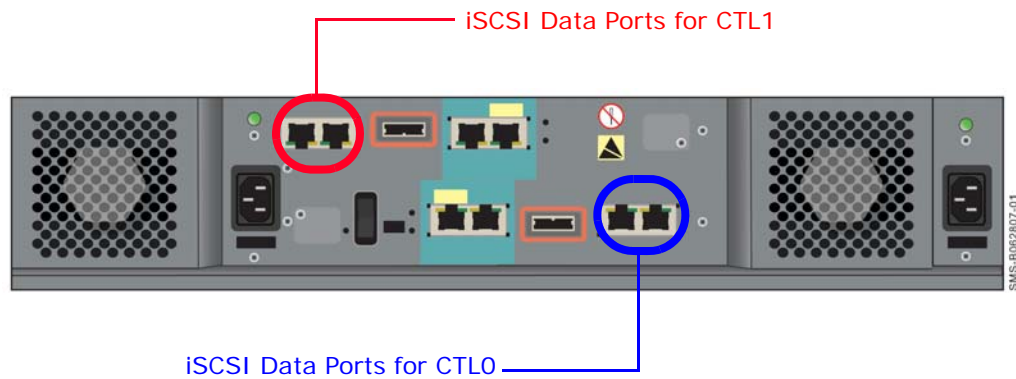
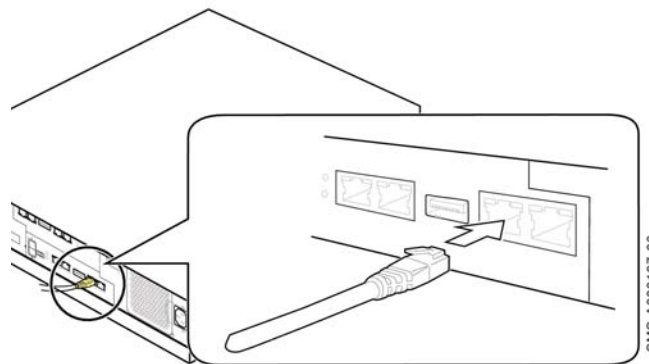

Figure 3-7: iSCSI Gigabit Ethernet Data Ports
Figure 3-8: Connecting an Ethernet Cable
1. On the back panel, insert one end of an Ethernet cable into an iSCSI data port (either **PORT A** or **PORT B**) on the back of your Hitachi Simple Modular Storage 100 (see Figure 3-7 on page 3-16 and Figure 3-8 on page 3-16). Connect the other end of the cable to your host system or switch.
NOTE: If your Hitachi Simple Modular Storage 100 has one controller, ignore the iSCSI data ports on CTL1 in Figure 3-7 on page 3-16.